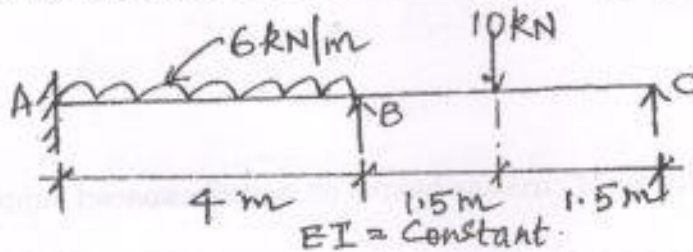

Fig. Q. 12 (a)
12. a) Analyze the beam ABC shown in Fig. Q. 12 (a) by stiffness method.